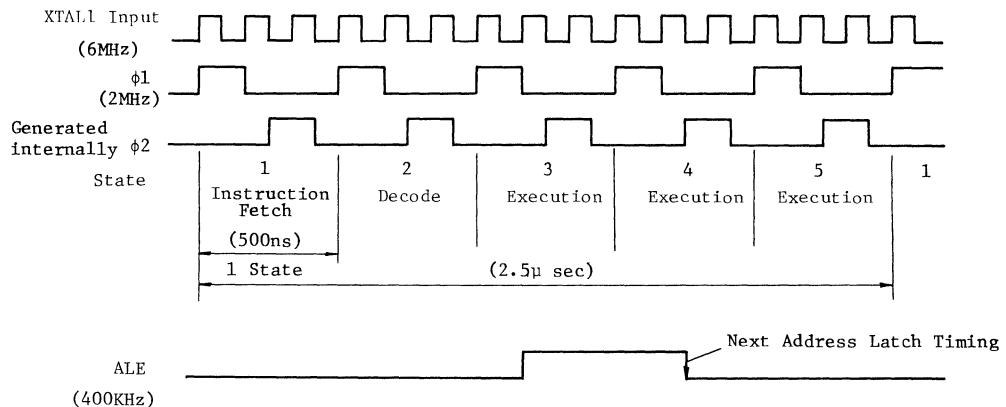

Fig.4 Instruction Cycle Timing
- Fig.4 illustrates its relationship with the clock input to CPU.
- $\phi_2$  clock shown in Fig.4 is derived to outside by ENTO CLK instruction.